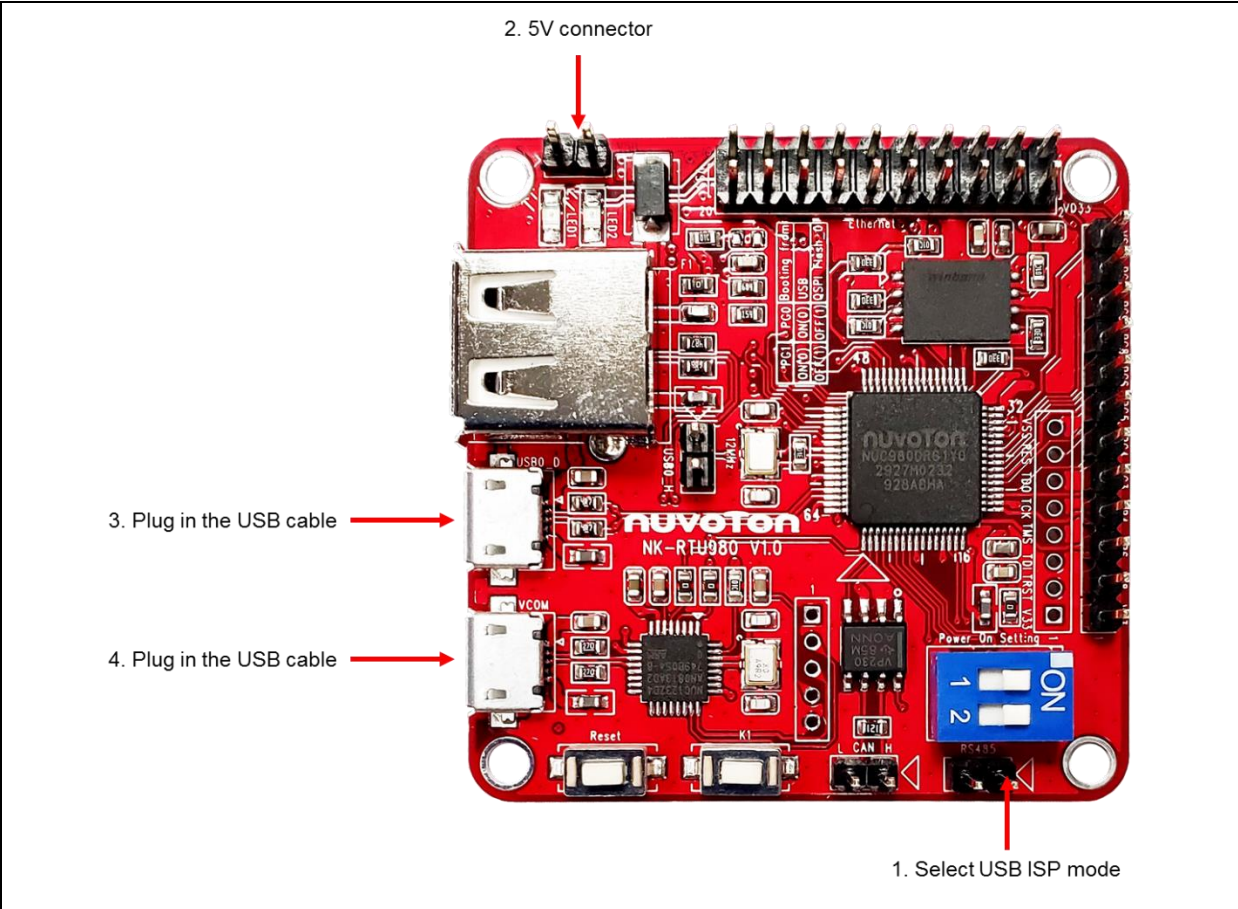

Figure 4-3 Hardware Setting
2. Set SW1(Power On Setting) to Boot from USB(shown in Table 4-1 and Figure 4-3). Connect USB0 to PC and connect UART console to PC.